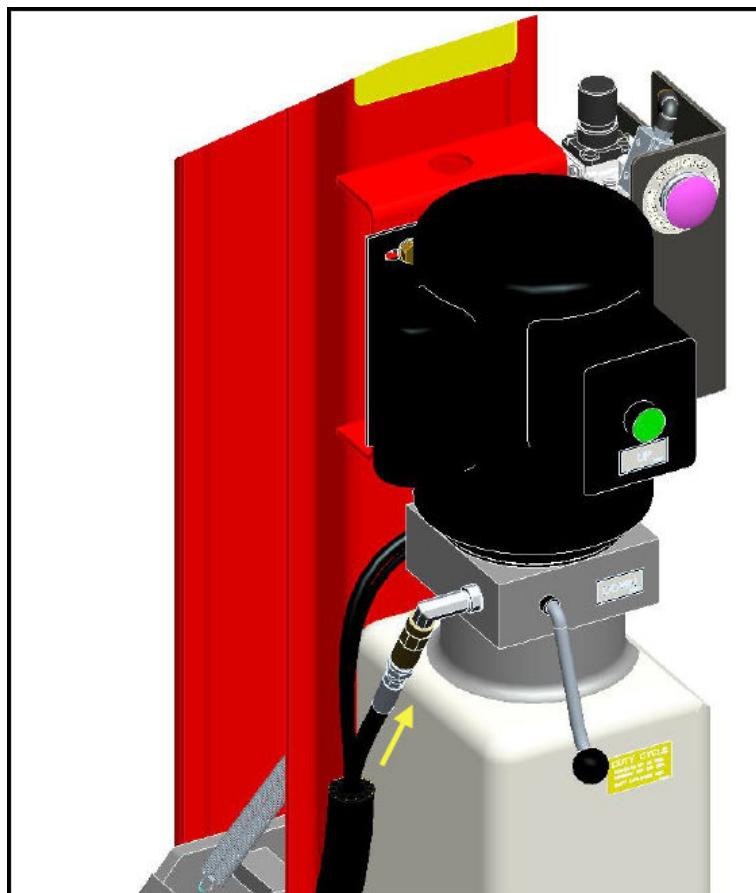

Figure 21. Powerpack Install
2. Install Flow Control #6-1691 into powerpack. See **Figure 21**.